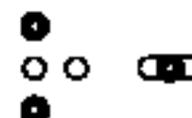
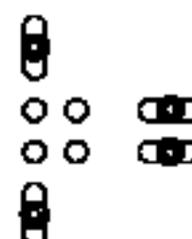

FIG. 2
FIG. 3
For maximum safety these winches must be mounted with two (2) 3/8" or M10 bolts (models 5402, 5403, 5404), or with three (3) 3/8" or M10 bolts (models 5405, 5407, 5408, 5409), washers and lock washers (see FIG. 1 and FIG. 2 at right). Attach cable or rope as shown in FIG. 3.